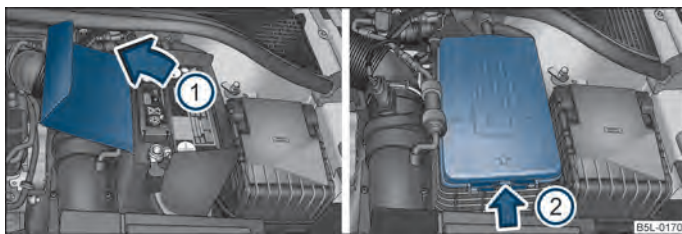

Fig. 157 Engine compartment: Polyester cover of the vehicle battery/plastic cover of the vehicle battery
The battery is located in the engine compartment in a polyester cover ⇒ fig. 157 - left or in a polyester cover ⇒ fig. 157 - right.
- Open the battery cover in direction of arrow ① or press the interlock on the side of the battery cover in direction of arrow ② ⇒ fig. 157, fold the cover up and remove the battery.
The edge of the polyester battery cover ⇒ fig. 157 - left is inserted between the battery and the side wall of the battery cover when working on the battery.